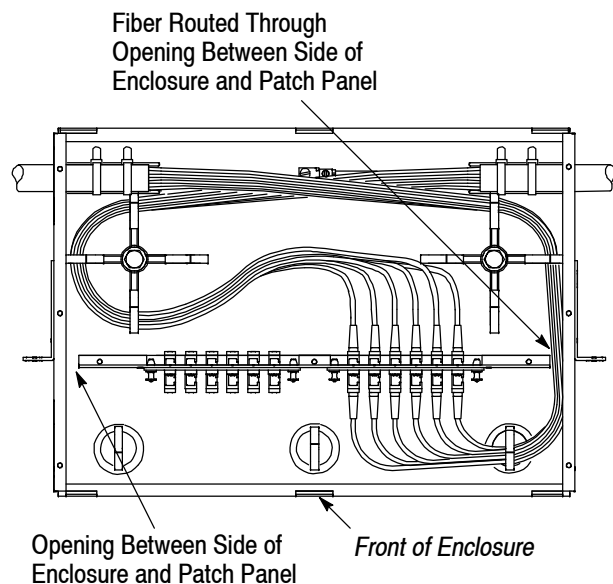

Figure 7
6. If necessary, fiber can be routed through the back of the enclosure and joined to the front the adapter plate, or routed through the front of the enclosure and joined to the back of the adapter plate. In this case, route the fiber through either opening between the side of the enclosure and the patch panel. Refer to Figure 7.